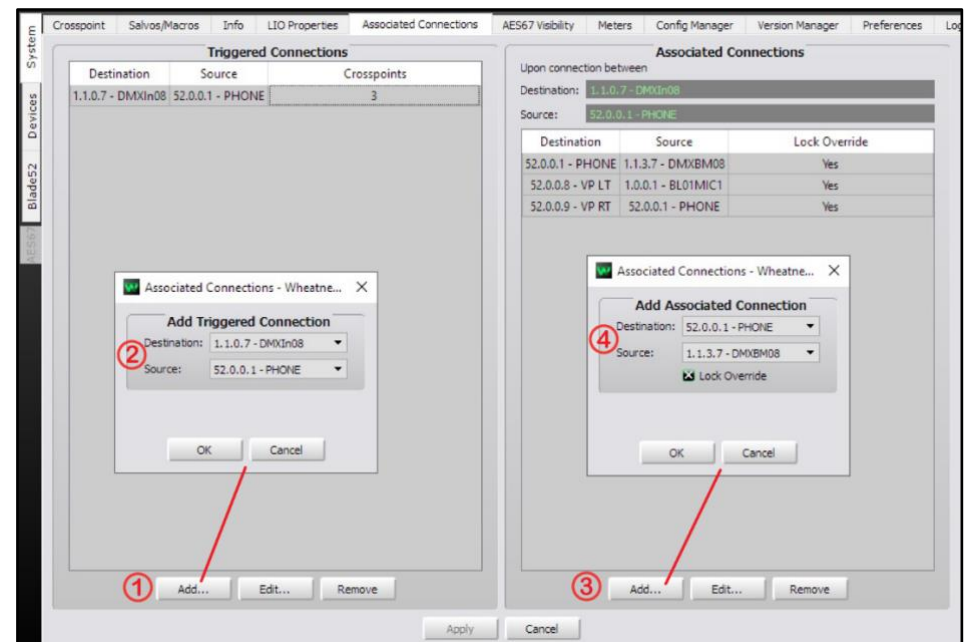

Figure 3-11 Associated Connections Tab
This type of AC is shown in Figure 3-11, but one can automate many other system operations in response to a predefined trigger connection
Setting up an AC is a four-step process which is numbered in Figure 3-11 on the previous page. In the left side **Triggered Connections** section, click the *Add...* button (1) to open the *Add Triggered Connection* dialog box (2) where a source and destination are selected. In the example, the triggered connection is the PHONE being taken on channel 8 (In08). Clicking *OK* adds that entry to the Triggered Connections list and closes the dialog box.
As shown in Figure 3-11, multiple Associated Connections can be assigned to the same trigger. In the example, when the PHONE is taken on channel 8, the channel 8 bus-minus signal is connected to the PHONE plus the caller and host mic audio are connected to a VoxPro editor (the host mic, BL01MIC1, connects to the left channel and the incoming PHONE audio connects to the right channel of the VoxPro destination).